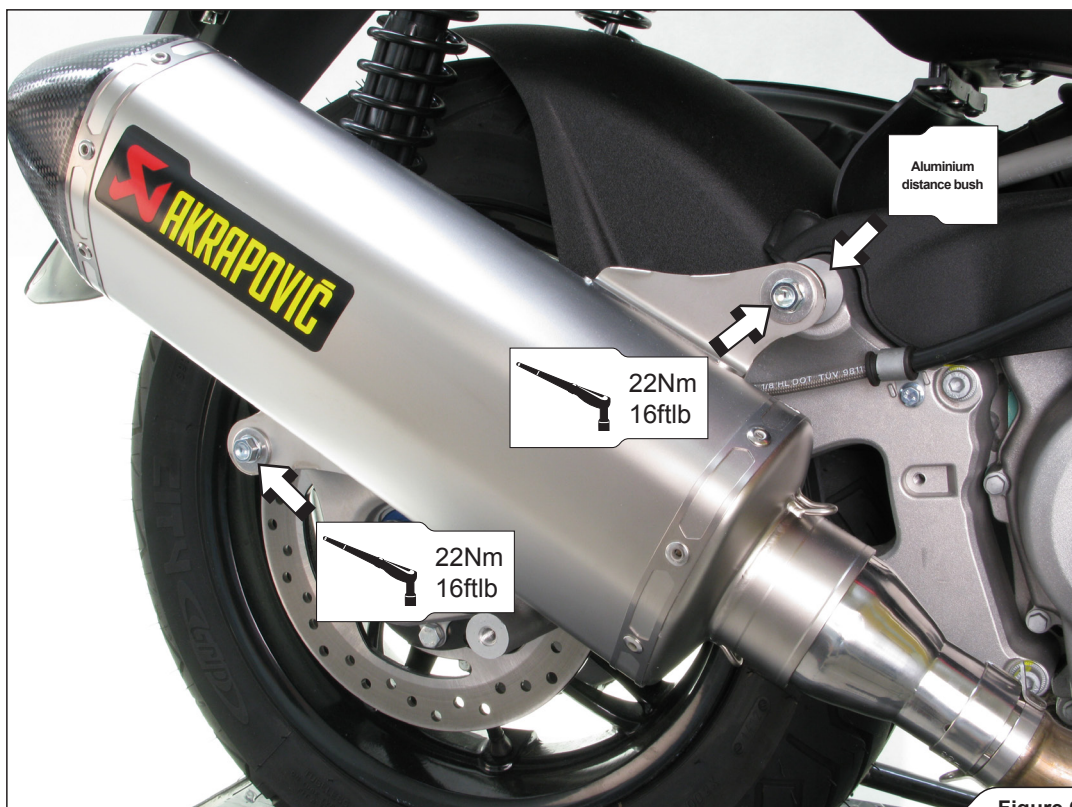

Figure 6
4. Slide the assembled muffler onto the stock header pipe. Align the muffler's brackets in the middle of the stock threaded brackets and tighten the muffler, using Akrapovič bolts, washers and aluminium distance bush (Figure 6).